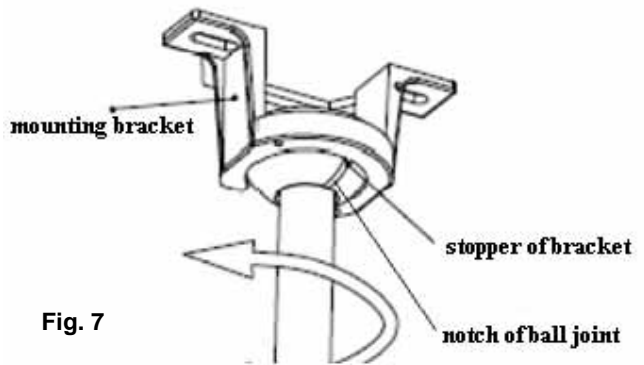

Fig. 7
1. Lift the fan assembly onto mounting bracket. Fig.7